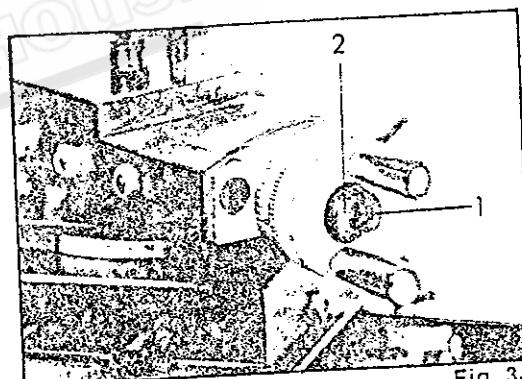

Fig. 34
Loosen screw (1, Fig. 34) and lock nut (2, Fig. 34). Adjust the nut until all play has been taken up. Lock the nut (2) with the screw (1).